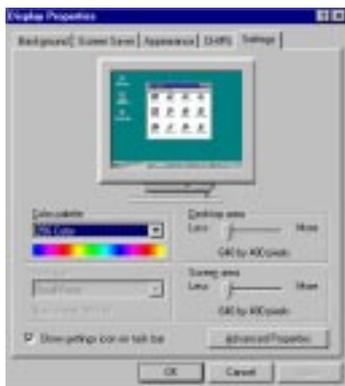

figure 1
1. Install Windows® 95 as you normally would for a VGA display. Click the Start button, go to Settings and click on Control Panel. Choose the Display icon and double click on the icon. In the Display Properties window, show as figure 1: